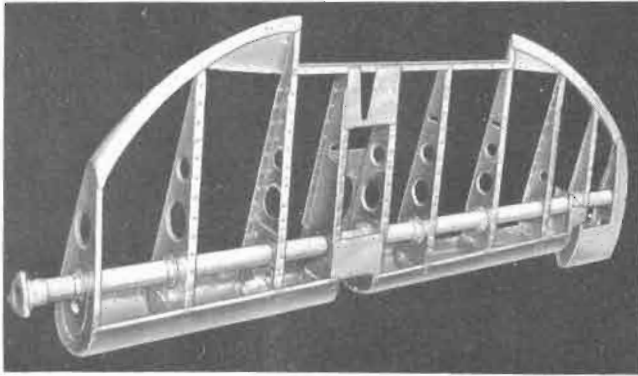

Figure 79 — Elevator Structure
(3) INSTALLATION.—(See figure 79.)—The two interchangeable elevator sections must be installed individually if the fin is installed, but may be installed together otherwise. Apply the following instructions, accordingly. After interchanging the elevator sections or installing a spare section, make certain the drain holes on the upper surfaces are covered and that new drain holes are added to the lower surfaces.